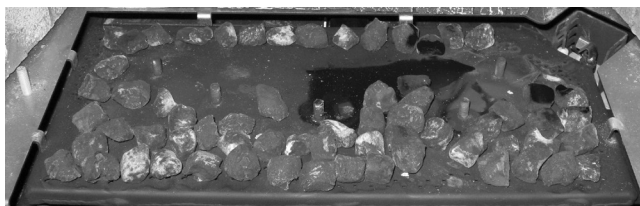

Figure 38. Ember Stones shown without logs.
**TO INSURE PROPER BURNER FUNCTION, DO NOT OBSTRUCT THE PILOT ASSEMBLY AND BURNER SKIRT AIR OPENINGS WITH EMBER STONES. KEEP EMBERS AWAY FROM THE PILOT CARRY-OVER PORTS AS IN FIG. 38.**
Figure 37. Place the Left Cross Log over the Rear Log and the Left Front Log, positioned as shown. Spread Ember Stones loosely over the burner plate. Keep stones away from burner edges. See fig 38.